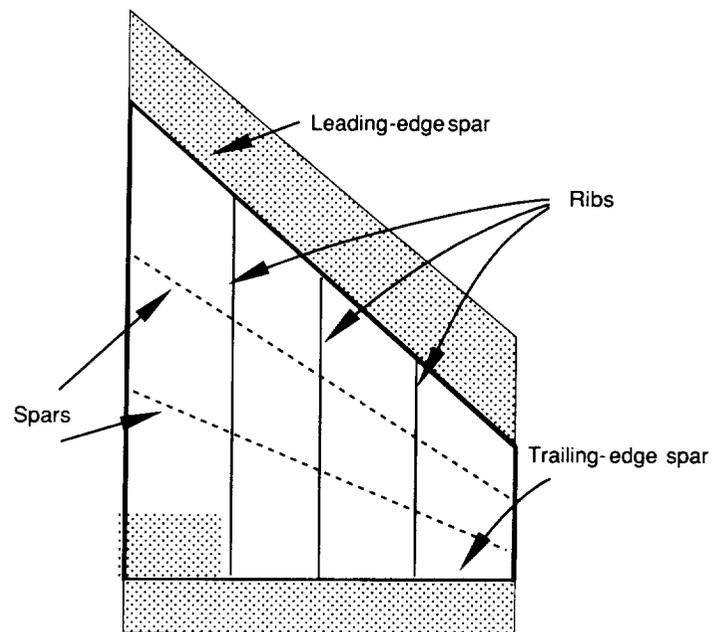

Figure 10.1. Wing planform and internal structure.
This chapter describes the options available in STRUCTURES Mode. This mode simplifies the construction of wing geometry that is suitable for finite-element model mesh generation. You use the mouse and menus to build a structural model by following a four-step process: (1) define the wing box, (2) create a rib pattern, (3) create a spar pattern, and (4) select Done. When you enter STRUCTURES Mode, you are prompted to select a wing from the Tree. You are restricted to single delta wings generated in PRIMITIVES Mode. The planform of your wing, which is similar to the one shown in figure 10.1, appears in the right View Window.
In figure 10.1, the planform is the outline of the  $X$ - $Y$  projected area of the wing. The dashed lines that run spanwise across the planform are called spars, and the solid lines that run chordwise across the
For instance, the wing shown in figure 10.1 contains 12 elements. SMART gives you an error message if any of the elements have more than four sides. Five-sided elements are highlighted in red, and six-sided elements are not highlighted. Highlighted elements, which appear to be four-sided, actually have five sides, but one side is too small to be seen on the screen. You must edit the rib or spar patterns so that you have no five- or six-sided elements. Then select **Done** again. The wing is resurfaced so that the upper and lower patch boundaries coincide with the underlying internal structural rib and spar elements that are generated. The leading-edge and trailing-edge portions of the wing outside the wing box are not present in the completed structural model.